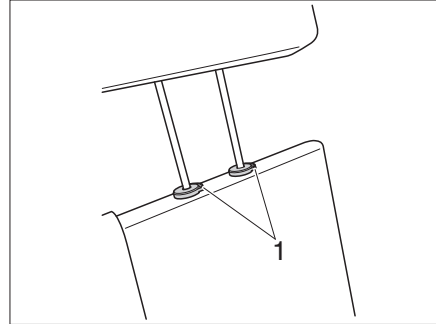

Fig. 22 Bench headrests (Variant 2)
- Press both safety catches (Fig. 22,1) to adjust or remove the headrests.